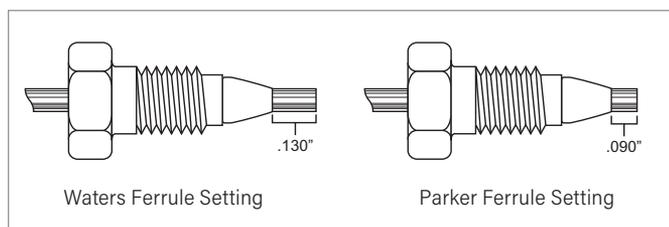

Figure 1. Waters and Parker ferrule types.
2. The XBridge and XBridge Premier Oligonucleotide C₁₈ Column should be connected to HPLC with 1/16 inch tubing (stainless steel or PEEK™). An arrow on the column identification label indicates the correct direction for solvent flow. Make sure that XBridge and XBridge Premier Oligonucleotide C₁₈ Column connection is made with the correct ferrule seating adjustment. Figure 1 shows the differences between Waters and Parker-style of ferrules and endfittings. Note the differences in endfitting style and length of tubing protruding from the ferrule end.
between Waters-style and Parker-style ferrules and endfittings (Figure 1). Each endfitting style varies in the required length of the tubing protruding from the ferrule. If a non-Waters-style column is presently being used, cut the end of the tubing with the ferrule, place a new ferrule on the tubing and make a new connection. Before tightening the screw, make sure that the tubing bottoms out in the endfitting of the XBridge Oligonucleotide C₁₈ Column.